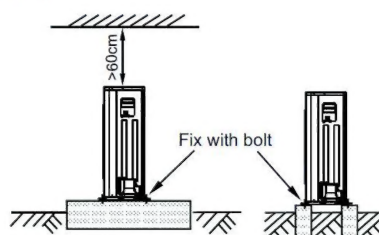

Fig.5-6
- Make concrete foundation according to the specifications of the outdoor units.(Refer to Fig.5-6)
- Fasten the feet of this unit with bolts firmly to prevent it from collapsing in case of earthquake or strong wind.(Refer to Fig.5-6)